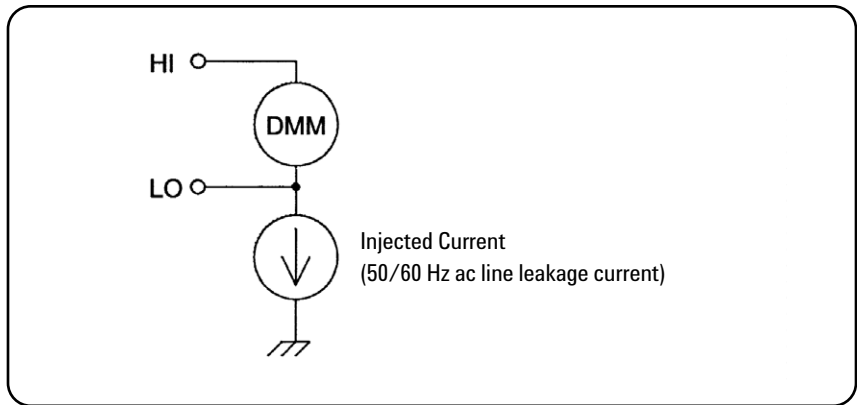

Figure 5.
**Noise Caused by Injected Current.** Residual capacitances in the multimeter’s power transformer cause small currents to flow from the LO terminal to earth ground. The frequency of the *injected current* is the power line frequency or possibly harmonics of the power line frequency. The injected current is dependent upon the power line configuration and frequency. A simplified circuit is shown in Figure 5.